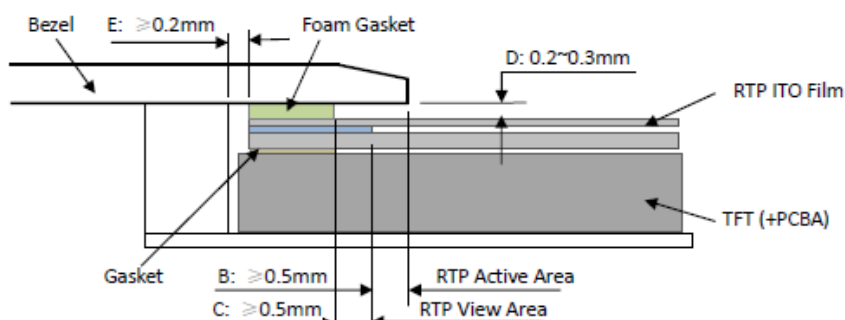

Figure 4
- It should bezel touching the RTP Active Area (A.A.) to prevent abnormal touch. It should left gap  $D=0.2\sim0.3\text{mm}$  in between. (Figure 4)
- Outer bezel design should take care about the area outside the A.A. Those areas contain circuit wires which is having different thickness. Touching those areas could de-form the ITO film. As a result bezel the ITO film be damaged and shorten its lifetime. It is suggested to protect those areas with gasket (between the bezel and RTP). The suggested figures are  $B\geq 0.50\text{mm}$ ;  $C\geq 0.50\text{mm}$ . (Figure 4)
- The bezel side wall should keep space  $E=0.2\sim0.3\text{mm}$  from the RTP. (Figure 4)
- 为避免面框直接压在动作区 (A. A.) 上造成误动作, 面框与电阻触摸屏 (RTP) 之间应留有一定的空隙  $D=0.2\sim0.3\text{mm}$  之间. (附图 4)
- 设计面框时, 要注意用面框保护触摸屏四周的非保证操作区域, 因为布线区域在此处形成一台阶, 在此区域附近操作时 ITO Film 变形较大, 容易导致 ITO 损坏而降低寿命. 为保护 RTP 和避免误操作, 在 RTP 与面框之间垫缓冲物 (Gasket), 我们建议设计面框应覆盖动作区的边缘, 面框边缘到 V. A. 区的距离  $B\geq 0.50\text{mm}$ ; 垫圈内边缘到 V. A. 区的距离  $C\geq 0.50\text{mm}$ . (附图 4)
- 在设计面框与 RTP 组装时, 应考虑到面框内侧与 RTP 外侧的间距  $E\geq 0.2\text{mm}$ . (附图 4)